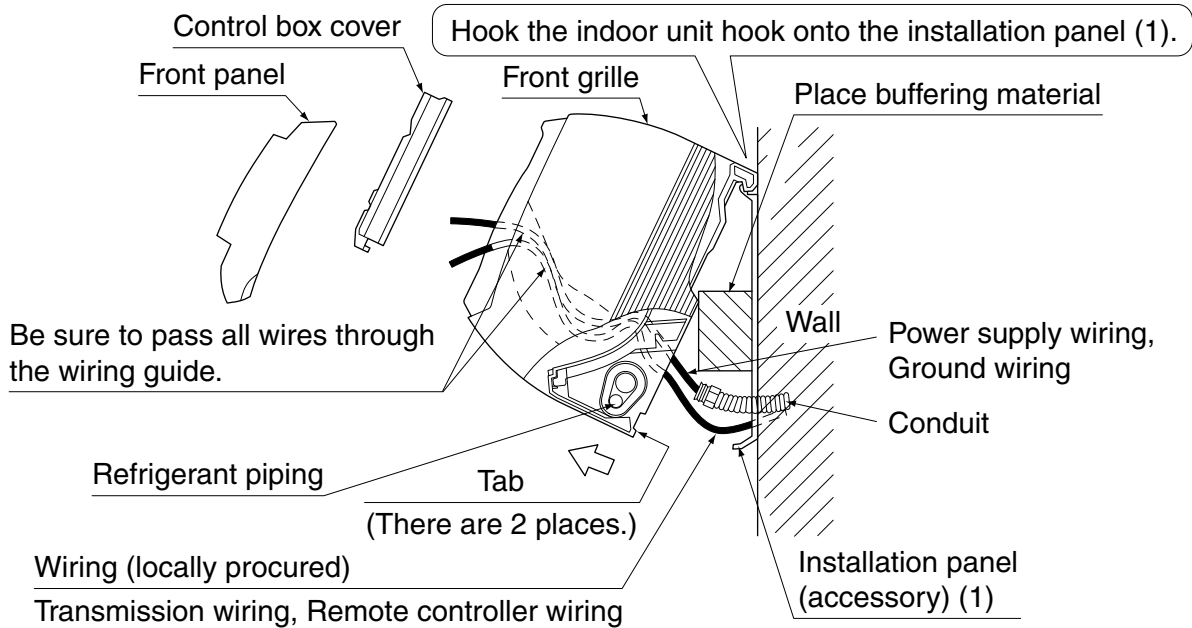

Fig. 9
- (1) Remove the drain plug and insulation tube.
- (2) Remove the drain hose and replace onto the left side.
- (3) Replace the drain plug and the insulation tube onto the right side.
(6) Hook the indoor unit onto the installation panel. (Refer to Fig. 9)
(9) Push on both bottom edges of the indoor unit using both hands and hook the tab on the back of the indoor unit onto the installation panel (1). (Refer to Fig. 9)
- At this time remove the buffering material placed in step (6).